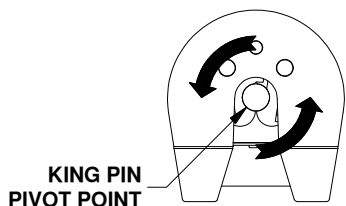
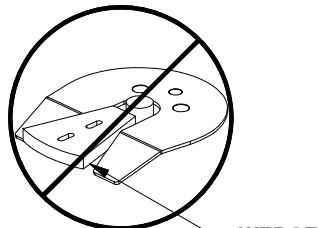

Figure G1: Top view of coupler.
Figure G2: Coupler with locking wedge.
**⚠ WARNING:** Do not use the Companion 5th wheel hitch with any device that changes the location of the king pin pivot point. The king pin on your trailer must rotate in the jaws of the Companion coupler, see Figure G1. Preventing the king pin from rotating within the jaws of the Companion coupler with a wedge, see Figure G2, or any other device, such as a Reese Sidewinder® or Reese Revolution®, could result in property damage, serious injury, or death.